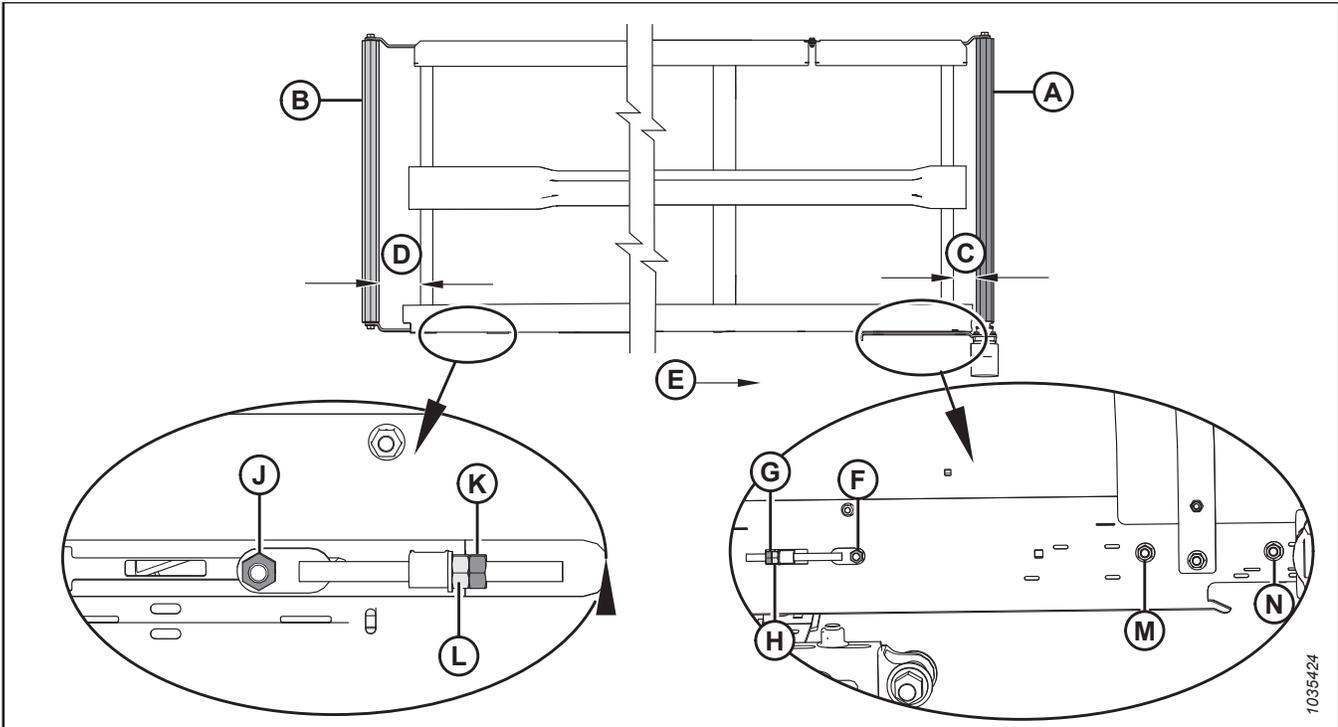

Figure 4.246: Draper Tracking Adjustments – Left Draper
2. Adjust drive roller (A) to change **C** (refer to Table 4.2, page 386 and Figure 4.246, page 386) as follows:
- a. Loosen nuts (F), (M), and (N), and jam nut (G).
- b. Turn adjuster nut (H).
- c. Tighten nuts (F), (M), and (N), and jam nut (G).
3. Adjust idler roller (B) to change **D** (refer to Table 4.2, page 386 and Figure 4.246, page 386) as follows:
- a. Loosen nut (J) and jam nut (K).
- b. Turn adjuster nut (L).